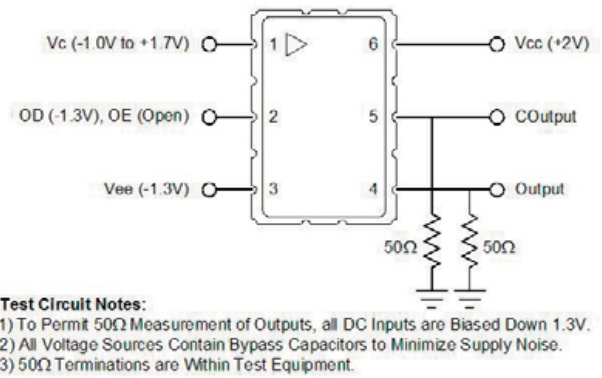

Figure 3. LVPECL Test Circuit
- 2] Parameters are tested with production test circuit below as shown in Figure 3.
2] Parameters are tested with production test circuit below as shown in Figure 3.